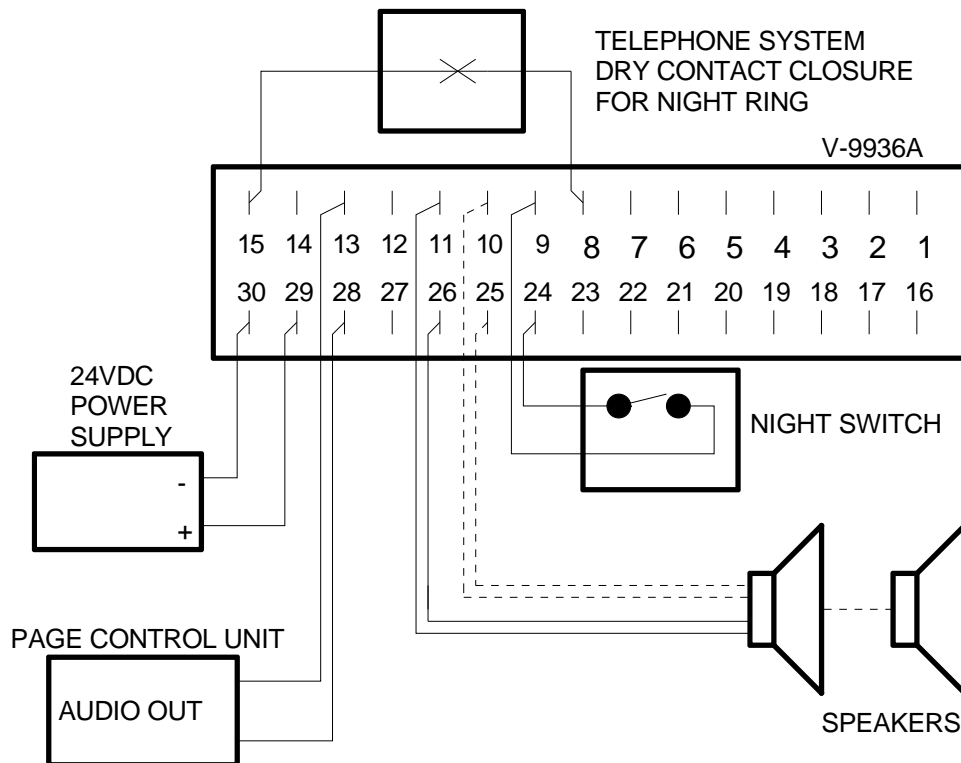

FIGURE 5 - CONNECTIONS FOR A TELEPHONE SYSTEM WITH A COMMON AUDIBLE CONTACT CLOSURE
- Proceed to Figure 5 for telephone system providing a dry contact closure for common audible signaling.